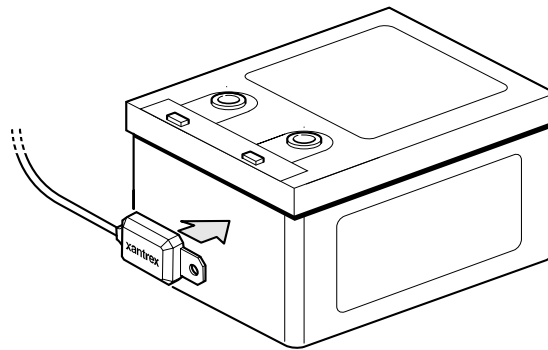

Figure 12 BTS Mounted on the Battery Case
See Figure 12.
5. Press the sensor firmly against the clean side of the battery to fix it in place, as shown in Figure 12.